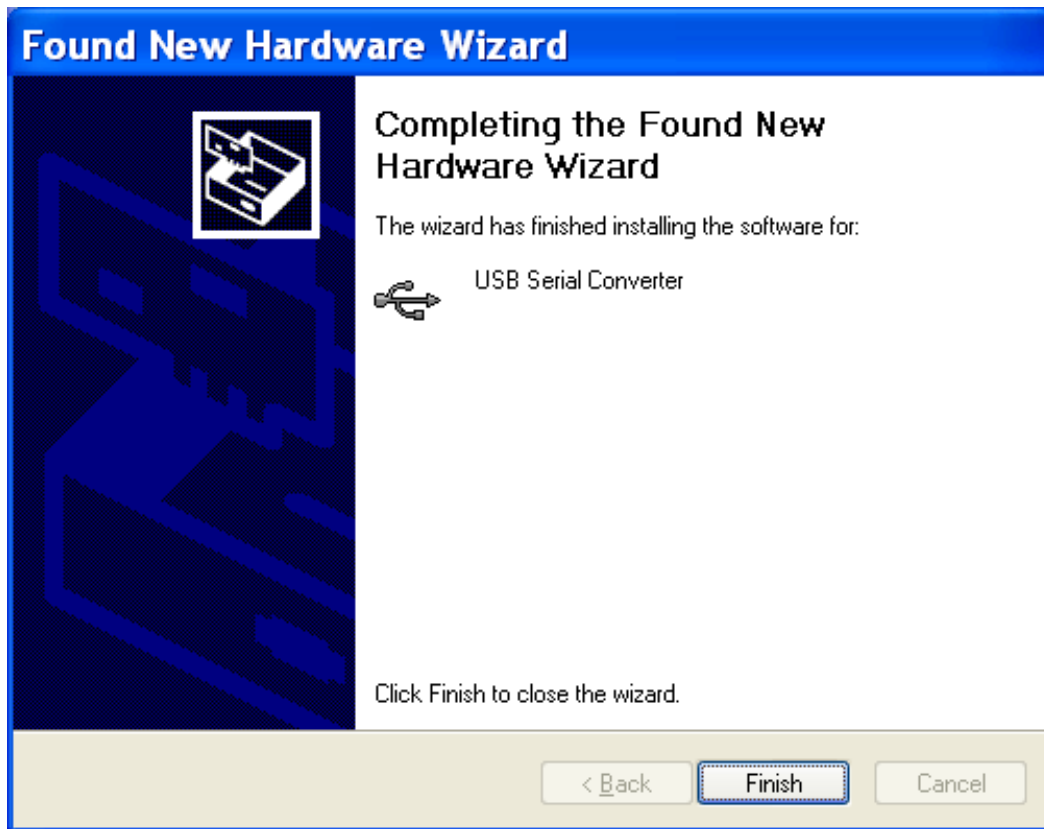

Figure 20: Installation Confirmation Screen
8. A confirmation screen similar to Figure 20 should appear. Click **Finish** to complete the device driver installation.